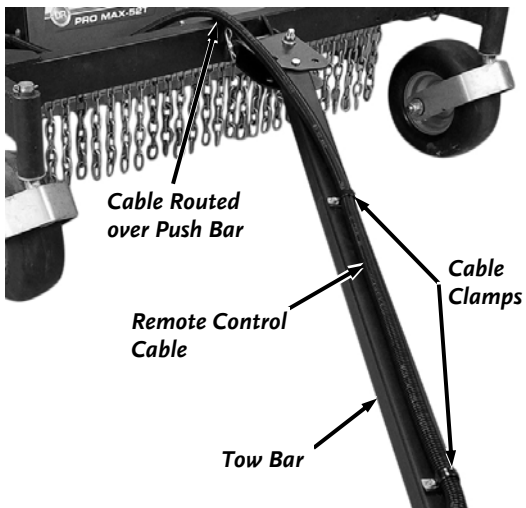

Figure 30
1. Remove the Screws securing the Cable Clamps and Remote Control Cable to the Tow Bar using a 5/16" Socket w/Ratchet (**Figure 30**).